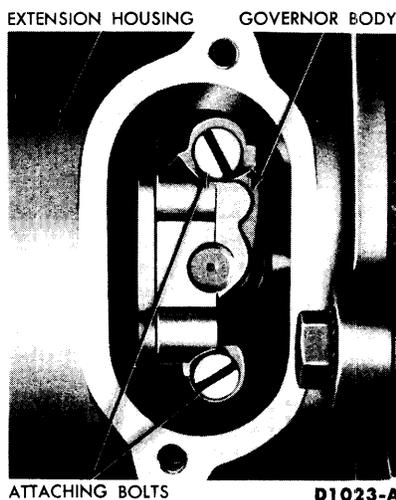

FIG. 1—Governor in Extension Housing
3. Rotate the drive shaft until the governor is in line with the inspection hole (Fig. 1).
3. Disconnect the hose from the vacuum diaphragm unit (Fig. 1, Part 5-3). Remove the diaphragm unit, using tool FCO-24. **Do not use any tools on the diaphragm housing, such as pliers, pipe wrenches etc. Do not**